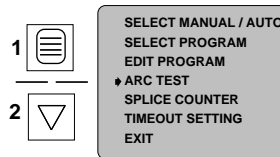

Figure 61
a) Select ARC TEST from the program menu (Figure 61).